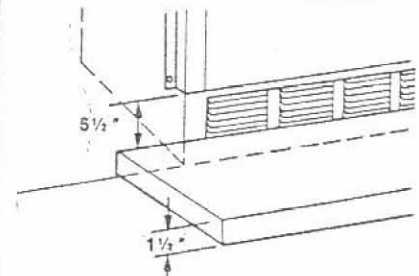

Figure 55
**CAUTION: FIREPLACE MUST BE RAISED IF HEIGHT OF HEARTH EXTENSION EXCEEDS 1 1/2" ABOVE BOTTOM OF FIREPLACE (FIGURE 55).**
**•WARNING: WHEN INSTALLING THE HEARTH EXTENSION BE CAREFUL NOT TO BLOCK THE HEAT CIRCULATING AIR INLETS (FIGURE 55).**